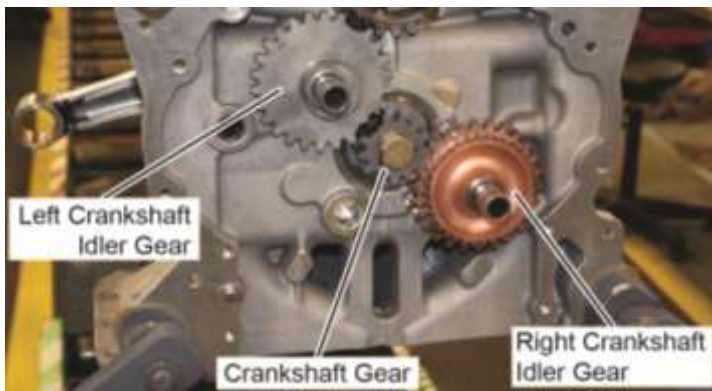

Figure 96
- A. Install the left crankshaft idler gear (Figure 96) in place on the idler shaft with a new bushing (Figure 2). Turn the crankshaft gear and/or the camshaft gear to align the gears.